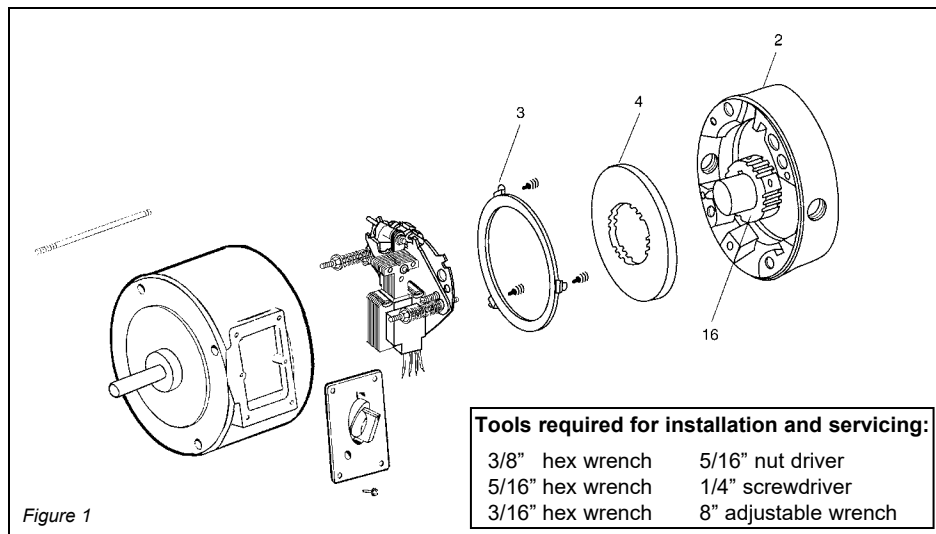

Figure 1
- 7** A. Slide housing and shaft assembly onto mounting studs, rotating shaft until keyway is aligned. Be sure housing is assembled with access windows in same position as shown in Figure 1, page 1.